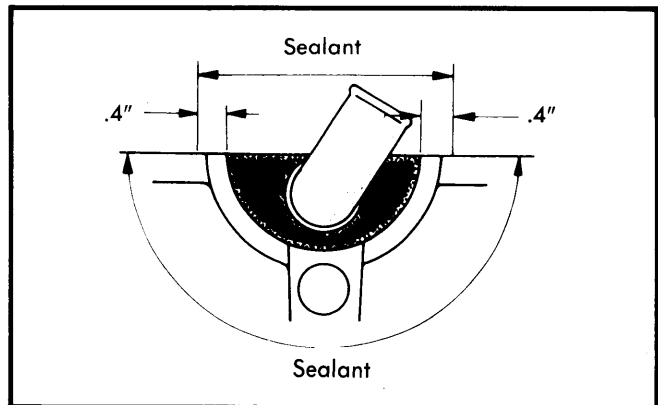

Fig. 2 Sealant Application Points
2) Reverse remainder of removal procedure, noting the following: Install the breather and semi-circular packing to cylinder head and apply sealant to points shown in Fig. 2.